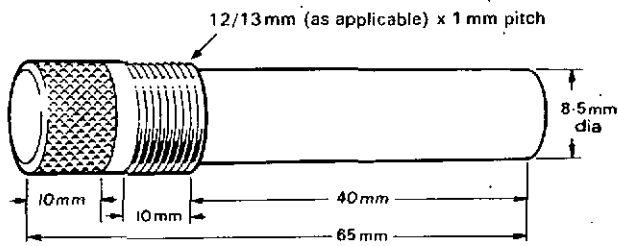
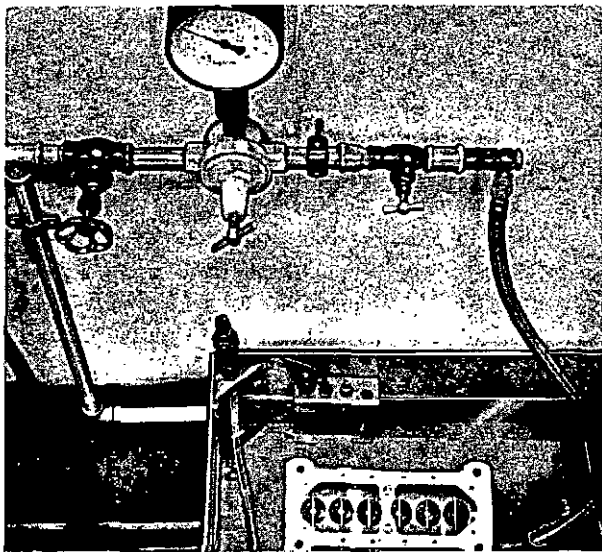

Fig. 33 Plunger retaining pin for pressure test
Fig. 34 Pressure test
6. Invert the pump, dip the plungers in clean fuel oil and fit them to their respective barrels, using pliers 0 681 340 003. Secure them by screwing six retaining pins (locally made from mild steel to the dimensions in fig. 33) into the tappet holder holes. Remove the pump from its mounting rig, connect an air-line to the fuel inlet gallery and blank off the spill connection. Immerse the pump, upside down, in fuel oil and admit air at 35 lbf./sq. inch (241 kN/sq.m) to the inlet gallery (fig. 34). There must be *no leakage* from the casting or pump barrels; this is *most important*, since any internal leakage (e.g. from damaged seals) can result in fuel oil entering the engine lubrication system via the injection pump. Small white bubbles at the plungers and delivery pipe connections may be disregarded.